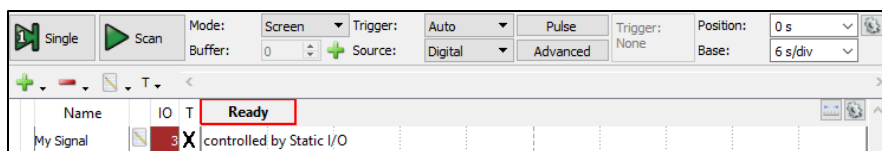

Figure 17: LSA with Static I/O
**Exercise:** Open the Static I/O in a separate window so you are able to see the Static I/O and Logic Analyzer at the same time. Configure Digital I/O signal 3 is configured as a 0/1 Button. You will notice in the Logic Analyzer that the DIO 3 will say "controlled by Static I/O" see Figure 17. That is normal. Change the base on the Logic Analyzer to 6 s/div and change the mode to Screen see Figure 17. Notice how what the Run button now says Scan. This occurs when the base is greater than 100ms. Press Scan. Press the button and notice how as you press and release the button, the Logic Analyzer records the result. Press Stop. Close the Static I/O and open the Pattern Generator in a separate window so you are able to see the Pattern Generator and Logic Analyzer at the same time. On the Pattern Generator, configure Digital I/O signal 3 as a 1 kHz clock. Press Run on the Pattern Generator. On the Logic Analyzer, change the Mode to Repeated.